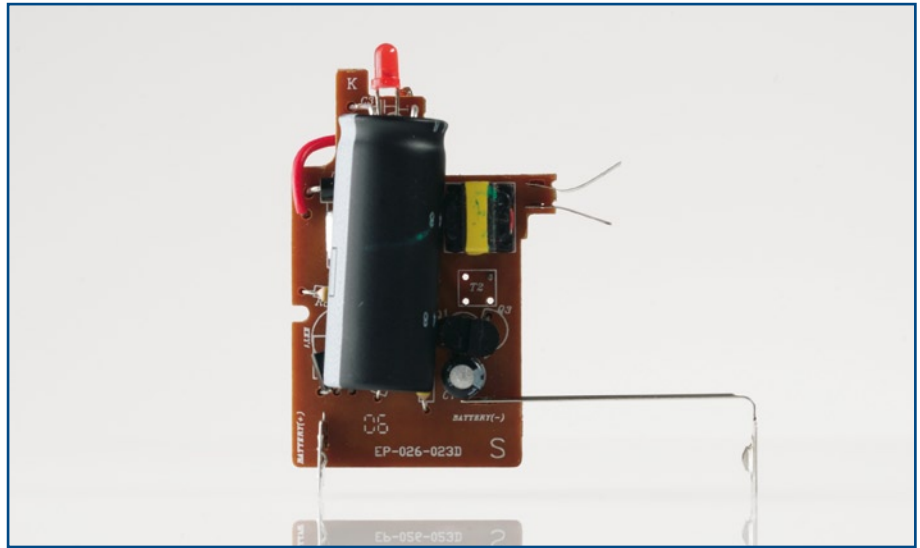

Figure 3. Photo of the active part of the flash recycled from a disposable camera.
1) 'cannibalising' the flash board. As the photo in **Figure 3** shows, this sub-unit doesn't look particularly impressive. On certain models, the miniature neon is replaced by an LED. You will need, by some means or another, to prepare this module by replacing the pushbutton (which controls charging of the capacitor) by a switch. The alternative solution suggested by the author is to use a dual reed relay (in order to avoid pressing the switch inadvertently).